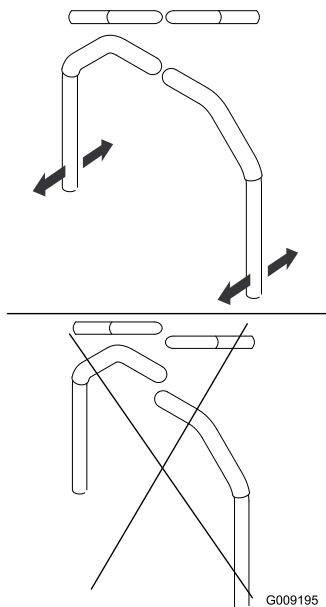

Figure 81
4. Align the levers in the front-to-rear position by bringing the levers together to the NEUTRAL position, and slide them until they are aligned, then tighten the bolts (Figure 81).